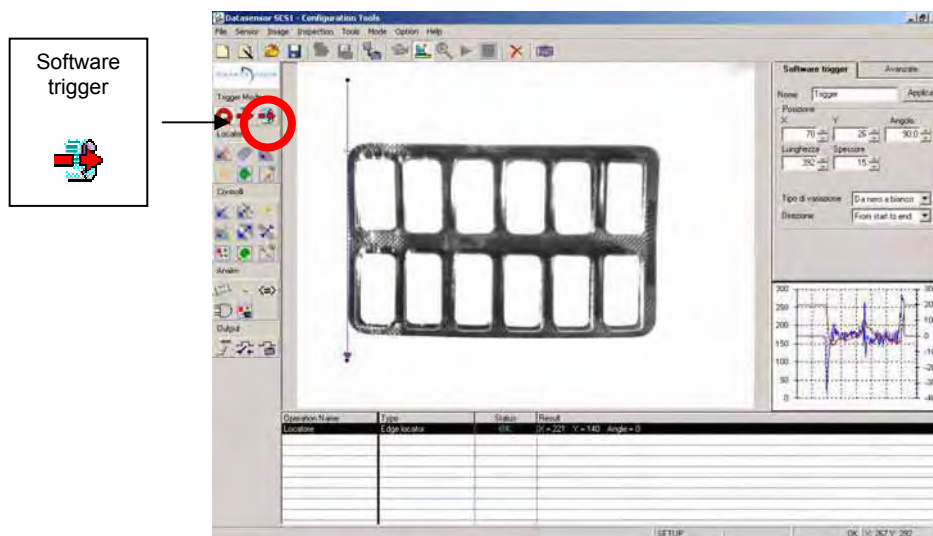

Figure 11
- Select the tool clicking on the toolbox icon (Figure 11) or from the menu (Operators → Snap mode → Software).